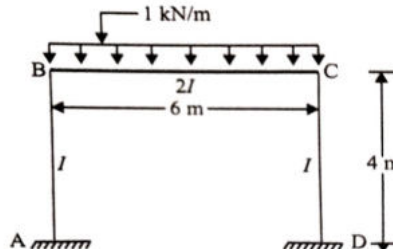

Figure 3.
4. A simple portal frame ABCD, shown in figure 3, is loaded with uniformly distributed load of 1 kN/m as shown. Beam BC is 6 m long and columns AB and CD are 4 m long. The moment of inertia of the beam is twice the moment of inertia of columns. Find the support moments and bending moments by the moment distribution method. Draw the bending moment diagram also. [14M]